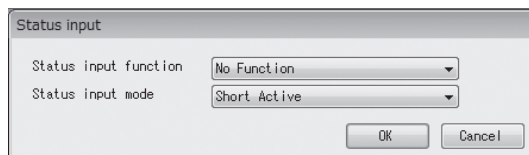

Fig.57
- ① Click on "Setup (S)" > "Status input" in the menu.
- ② The following window will be displayed (Fig. 57). Set the status input function here.